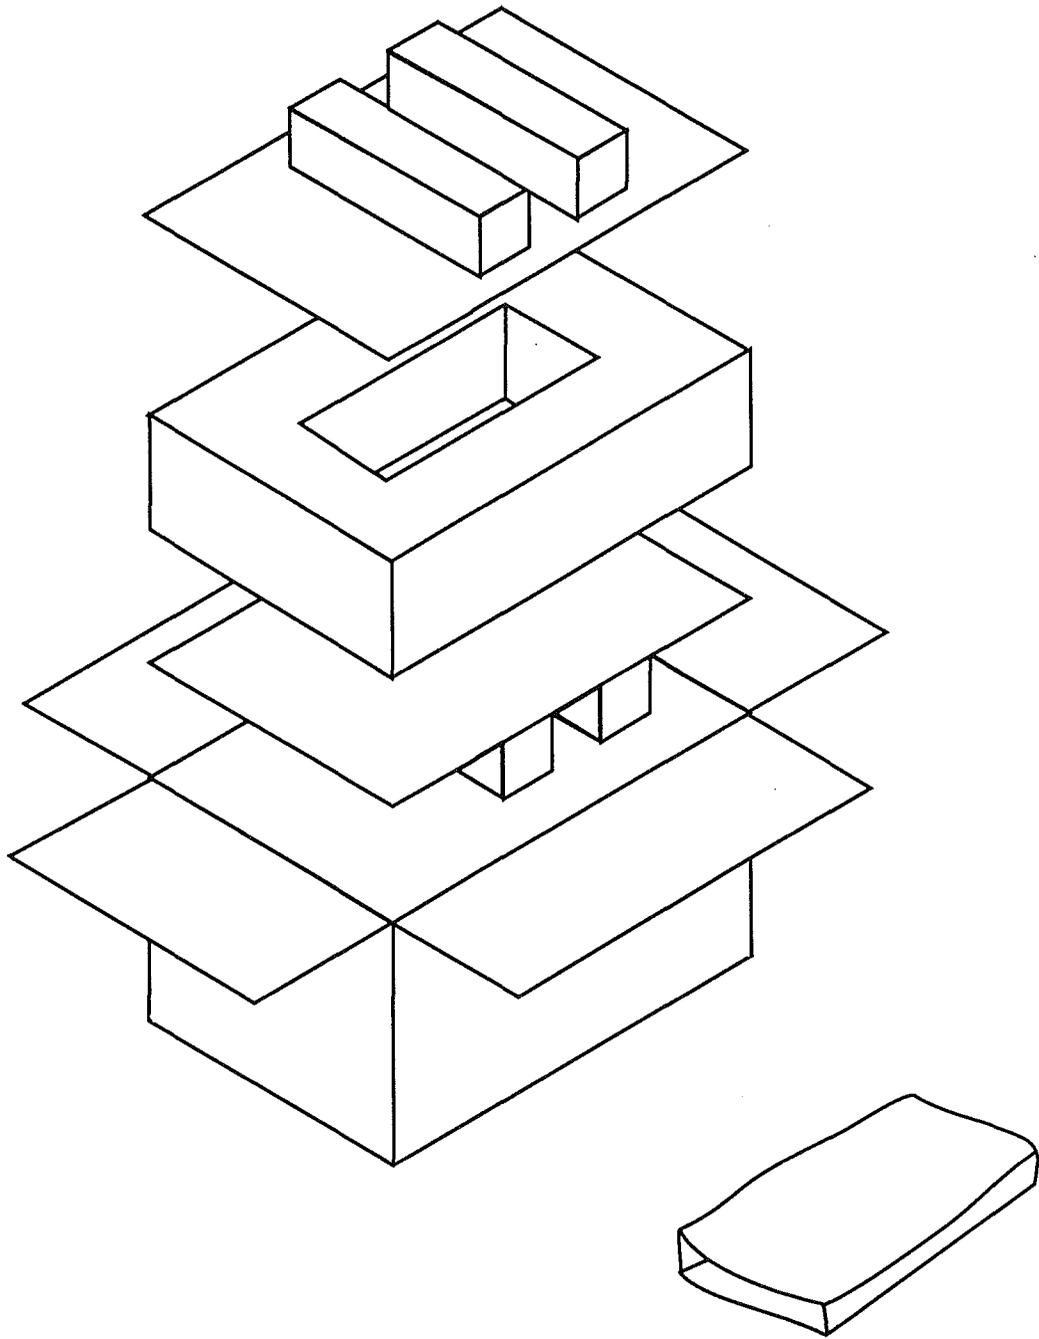

FIGURE 10
□ REQUIRED SERVICE PACKAGING (Figure 10)